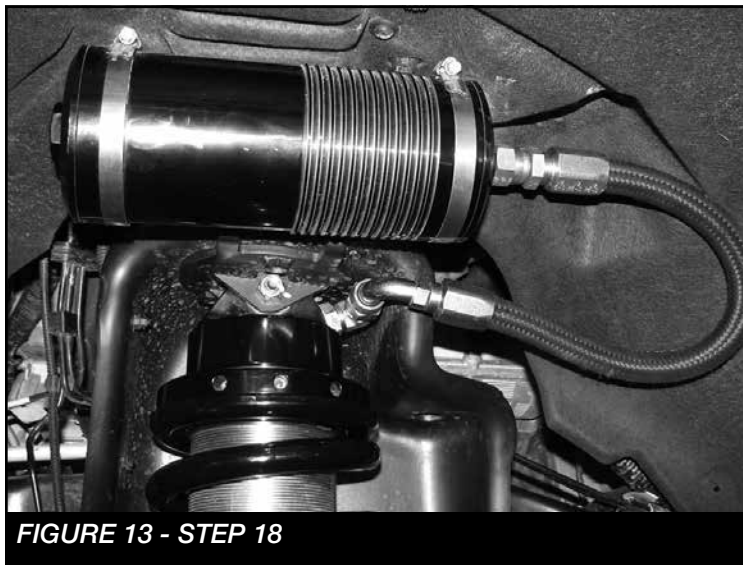

FIGURE 13 - STEP 18
18. Install the resi can to the resi mount using the supplied clamps. SEE FIGURE 13